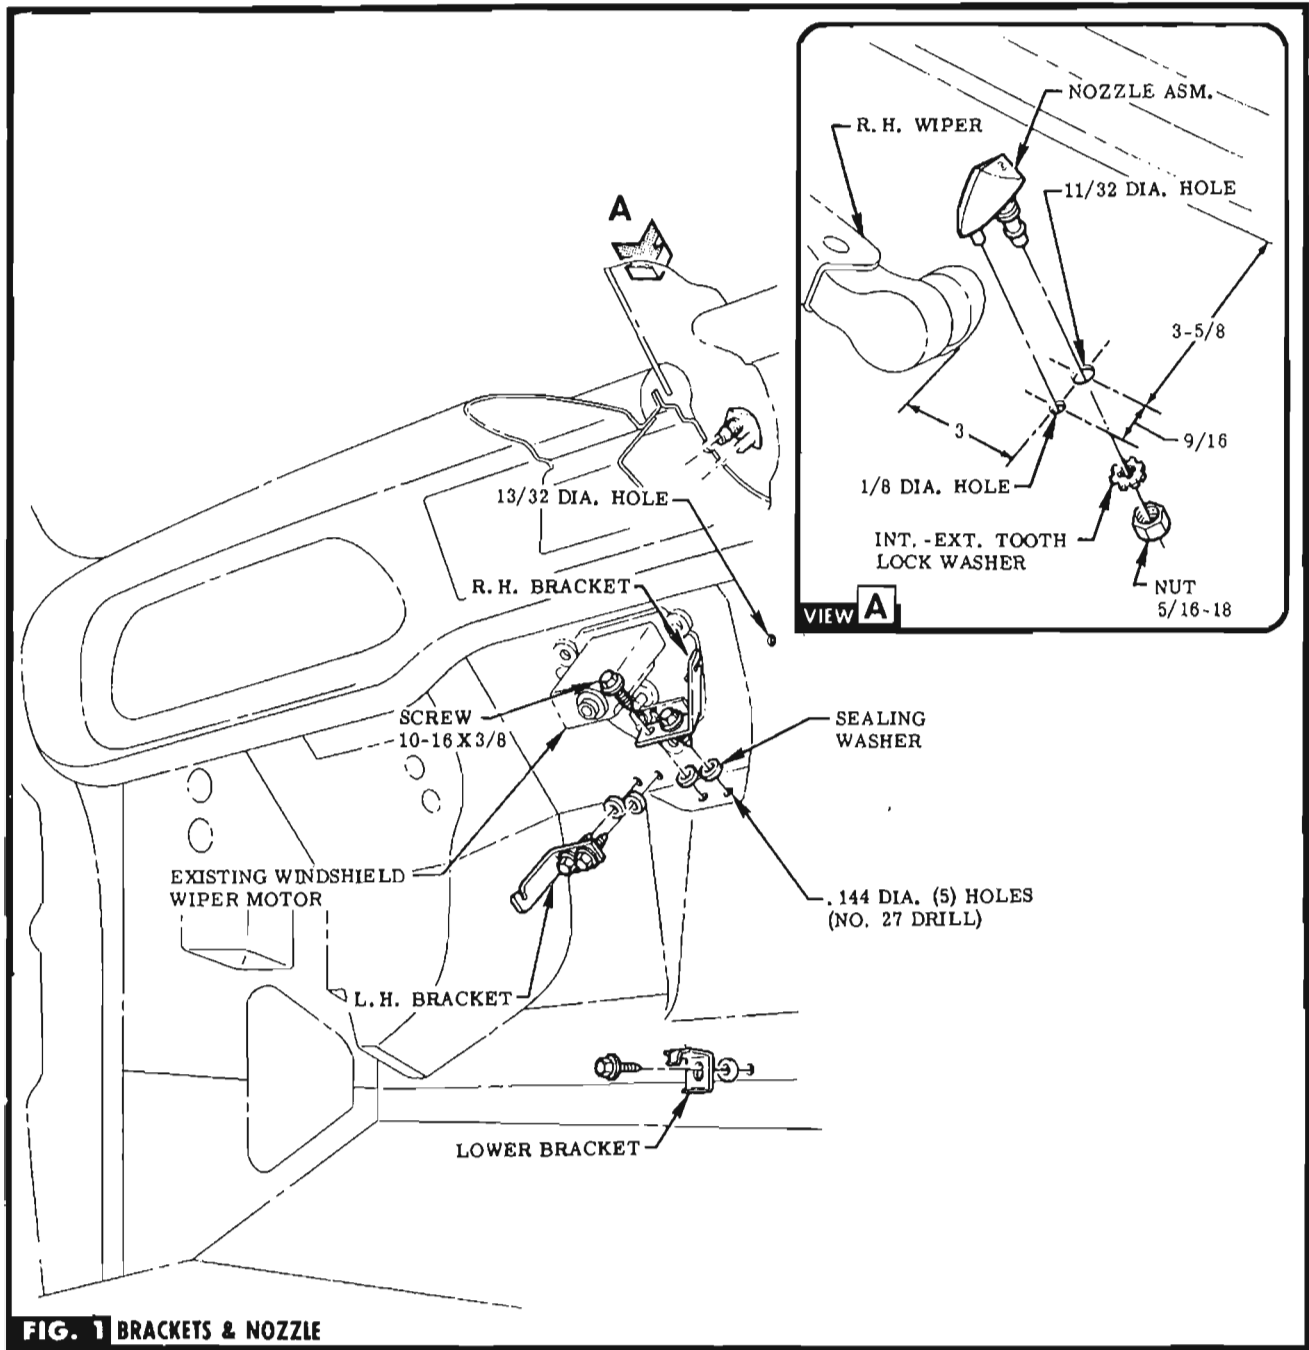

FIG. 1 BRACKETS & NOZZLE
STEP 1 LOCATE EXISTING DIMPLES IN DASH PANEL & DRILL HOLES FOR UPPER R. H. & L. H. & LOWER BRACKETS & GROMMET. SEE FIG. 1. **NOTE** If heater exists, use lower hole of heater control cables clip for attaching lower bracket.
STEP 2 INSTALL RESERVOIR UPPER & LOWER MOUNTING BRACKETS WITH ATTACHING PARTS PROVIDED. SEE FIG. 1.